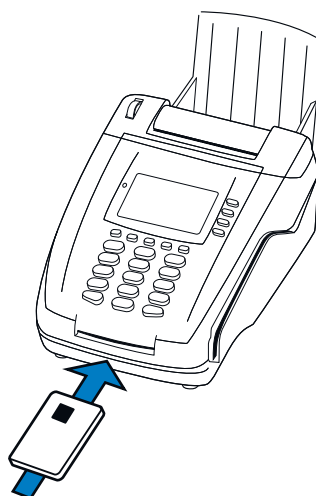

Figure 30 Inserting a Smart Card
- 1 Position a smart card with the contacts facing upward (see Figure 30).